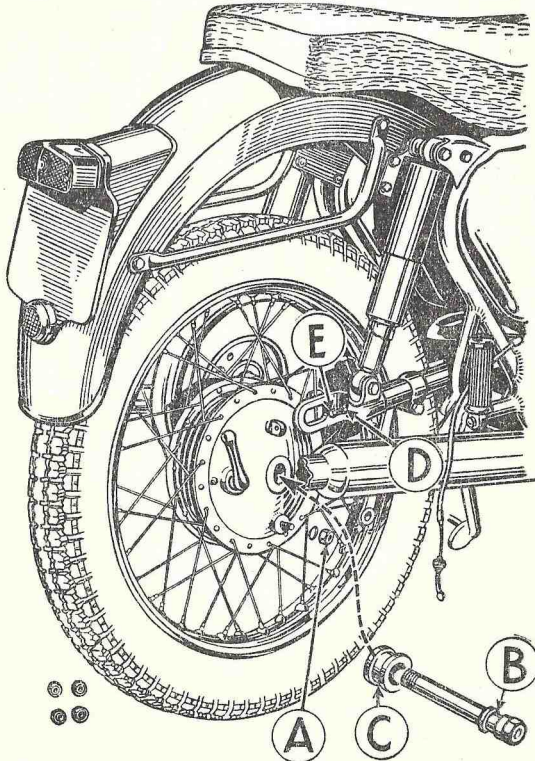
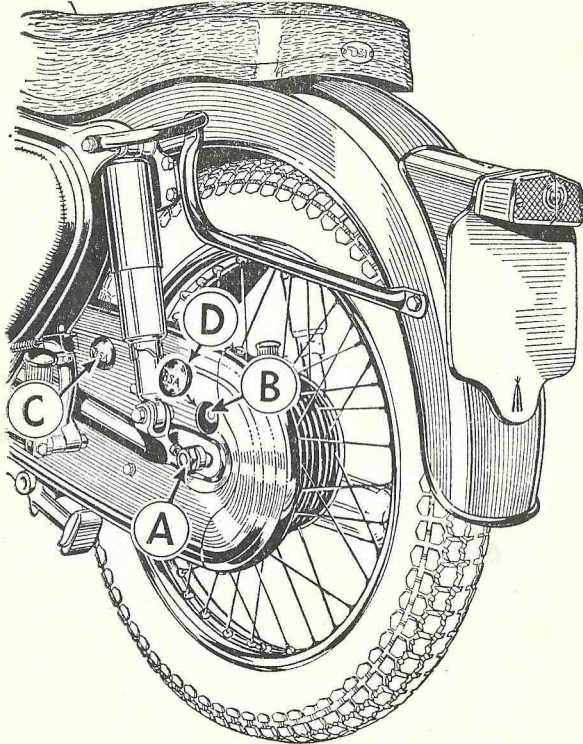

Fig. 18. Rear Wheel Removal and Rear Chain Adjustment.
Fig. 19.
To remove the rear wheel, place the machine on its stand. Take off the nut (A) Fig. 18, to free the brake anchor strap; and disconnect the brake cable. Unscrew the four retaining nuts (B) Fig. 19, locking the wheel on the chainwheel. On machines fitted with a fully enclosed chainguard, this operation is carried out after removing the rubber plug (D) Fig. 19. Next, place a spanner on to the spindle end at (B) Fig. 18, and unscrew in an anti-clockwise direction until it can be withdrawn. The distance piece (C) can then be removed and the wheel can be withdrawn to the right, when it can be taken downwards and rearwards. Note that the large nut (A) Fig. 19, on the left-hand end of the spindle retains the chainwheel and should not be disturbed.
the centre of the chain span. On machines fitted with a fully enclosed chainguard the rubber plug (C) Fig. 19, should be removed to test the chain tension. The total movement should be 1-1/4 inches and if it varies from this setting then the chain must be adjusted by moving the rear wheel. Unscrew the spindle (B) Fig. 18, slightly, then slacken off the hexagon (A) on the left-hand side of the hub. Release the locknuts (D) and screw the adjusters (E) in or out as the case may be, until the chain tension is correct. Re-tighten in the reverse order.